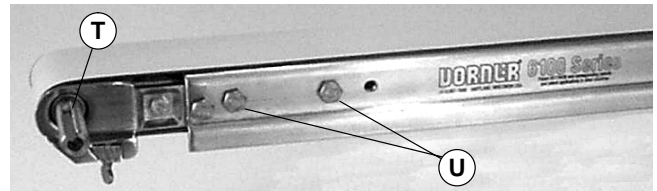

Figure 3
### 2. Locate drive output shaft (T of Figure 3) and remove two (2) screws (U).